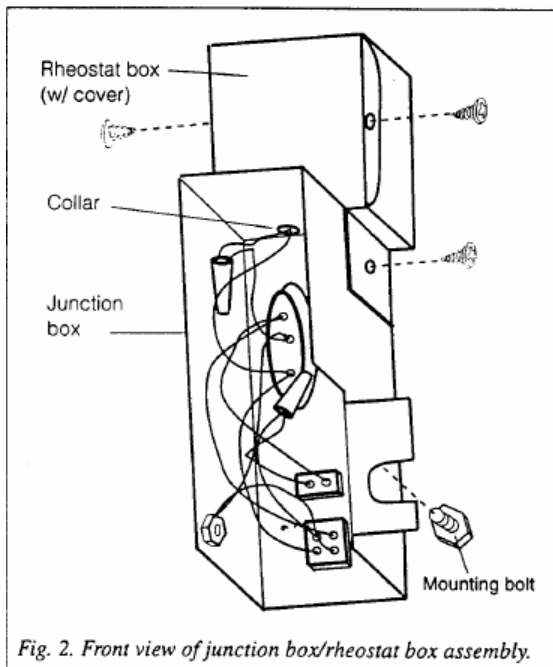

Fig. 2. Front view of junction box/rheostat box assembly.
1. With the left junction box assembly removed from the insert, check the wiring on the open (front) side of the junction box. *Early units* have continuous wires from the rheostat to the connectors on the junction box. For these units, cut the two red wires and one black wire, at the collar between the junction box and the rheostat box. See Fig. 2. *Later units* have wire nuts on the wires between the rheostat box and the junction box; unthread these nuts.
2. (*early units*) Remove the two sheet metal screws holding the rheostat box to the junction box. Pull the two boxes apart. See Fig.2.